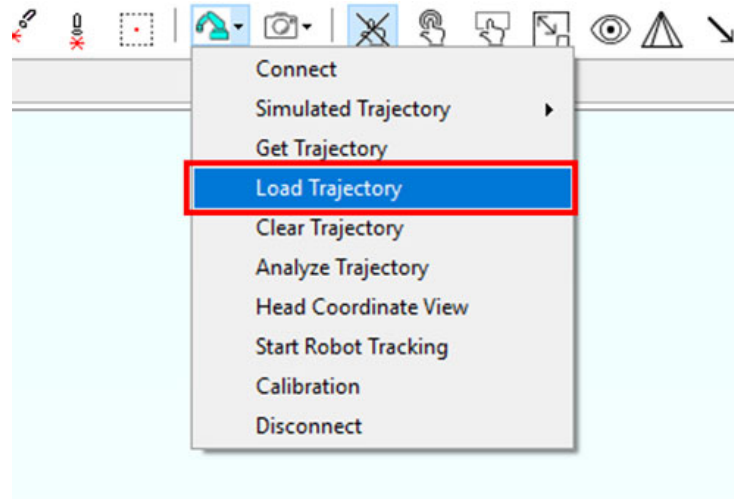

Figure 307: Loading a Trajectory
2. Select "Load Trajectory" from the robot menu. See Figure 307 (below).